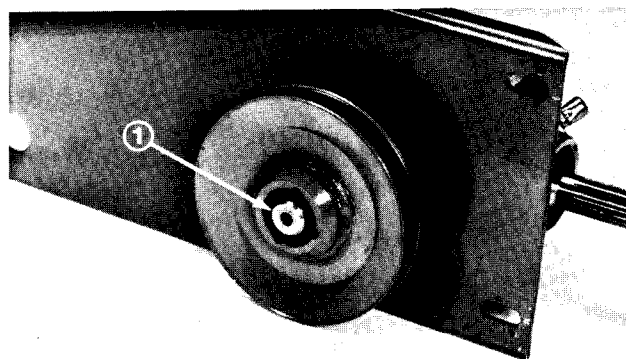

Figure 38
5. Remove the set screws from the taper lock bushing (Fig. 38). Install one setscrew into the hole that is threaded on the side of taper lock. Tighten the setscrew until the taper lock is loose from the inside of the pulley hub.